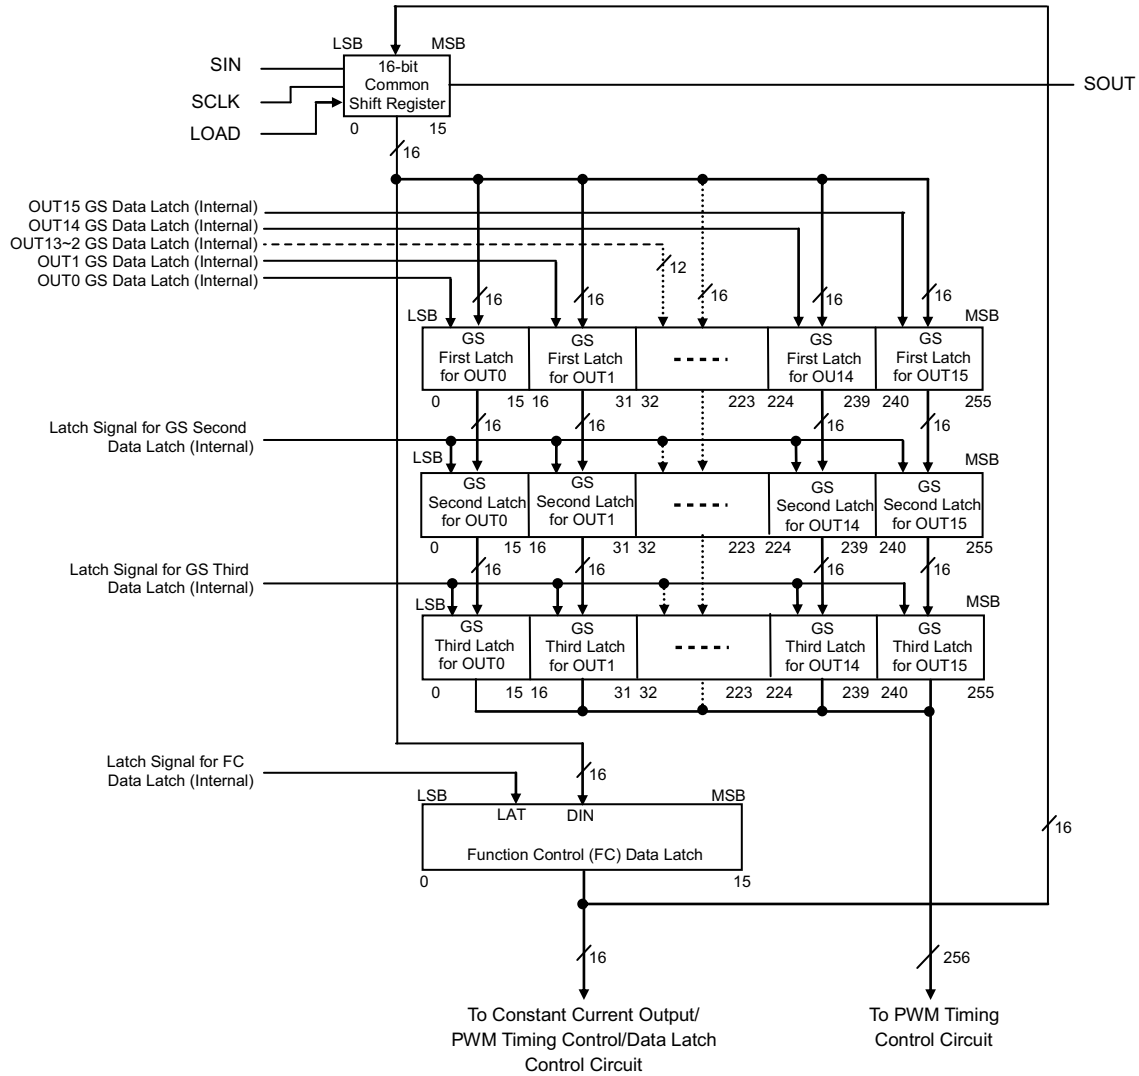
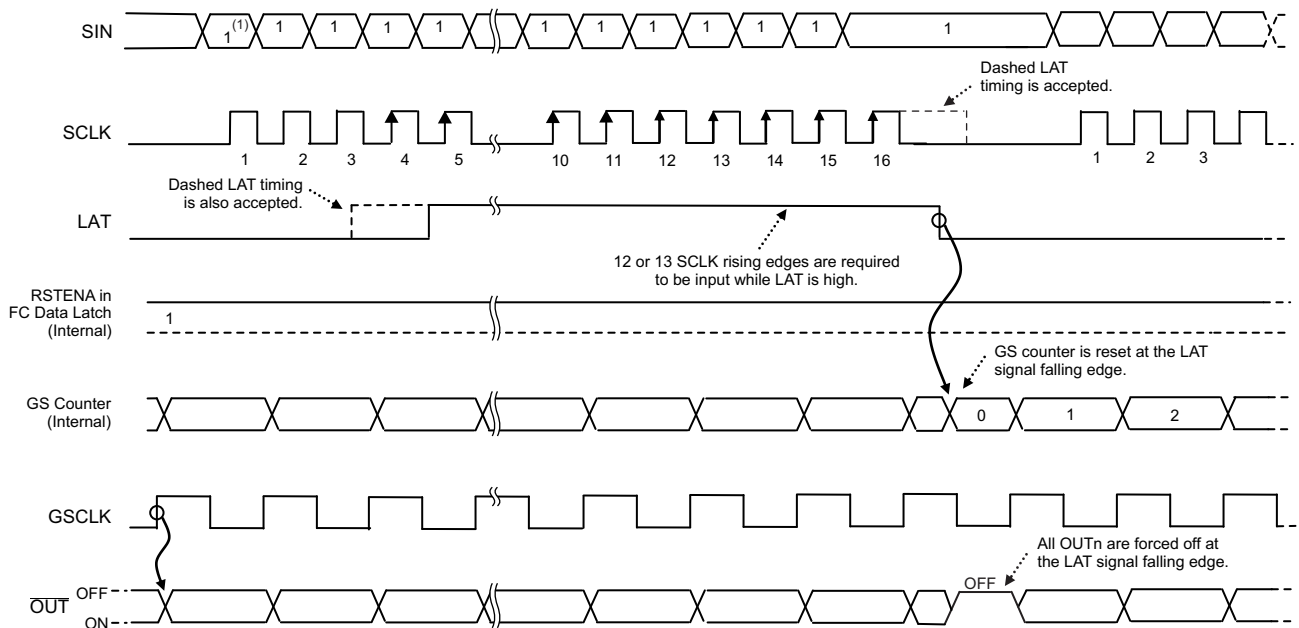

Figure 21. Shift Register and Data Latch Configuration
Figure 26. Display Timing Reset (TMGRST) Command Timing Diagram
The TLC59482 has one common shift register, one function control (FC) data latch, and a set of three data latches: the first, second, and third grayscale (GS) data latches. The common shift register and FC data latch are 16 bits long and the GS data latches are 256 bits long. Figure 21 shows the common shift register and the data latches configuration.
This function allows users to reset the GS counter using the TMGRST command described in Table 6. This function is enabled when the TMRSTEN bit in the FC control data latch is '1'. The grayscale counter is reset to '0' when the TMGRST command is input. All OUT_n are forced off. Refer to Figure 26 for a display timing reset functional timing diagram
The TLC59482 has six commands that can be input with SCLK and LAT signals: WRTGS, LATGS, READFC, WRTFC, TMGRST, and FCWRTEN. Refer to Figure 21 to Figure 26 for detailed command input timing diagrams for each command. Each command function is described in Table 6.